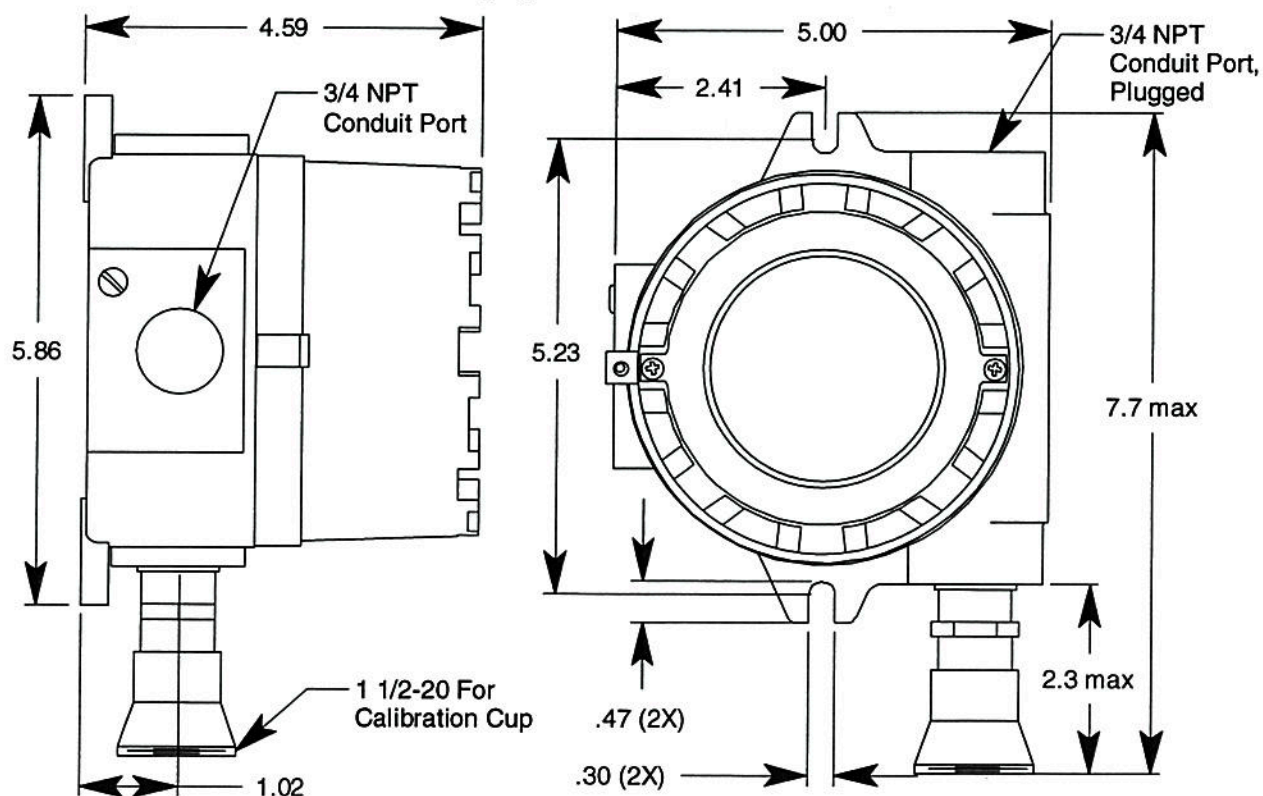
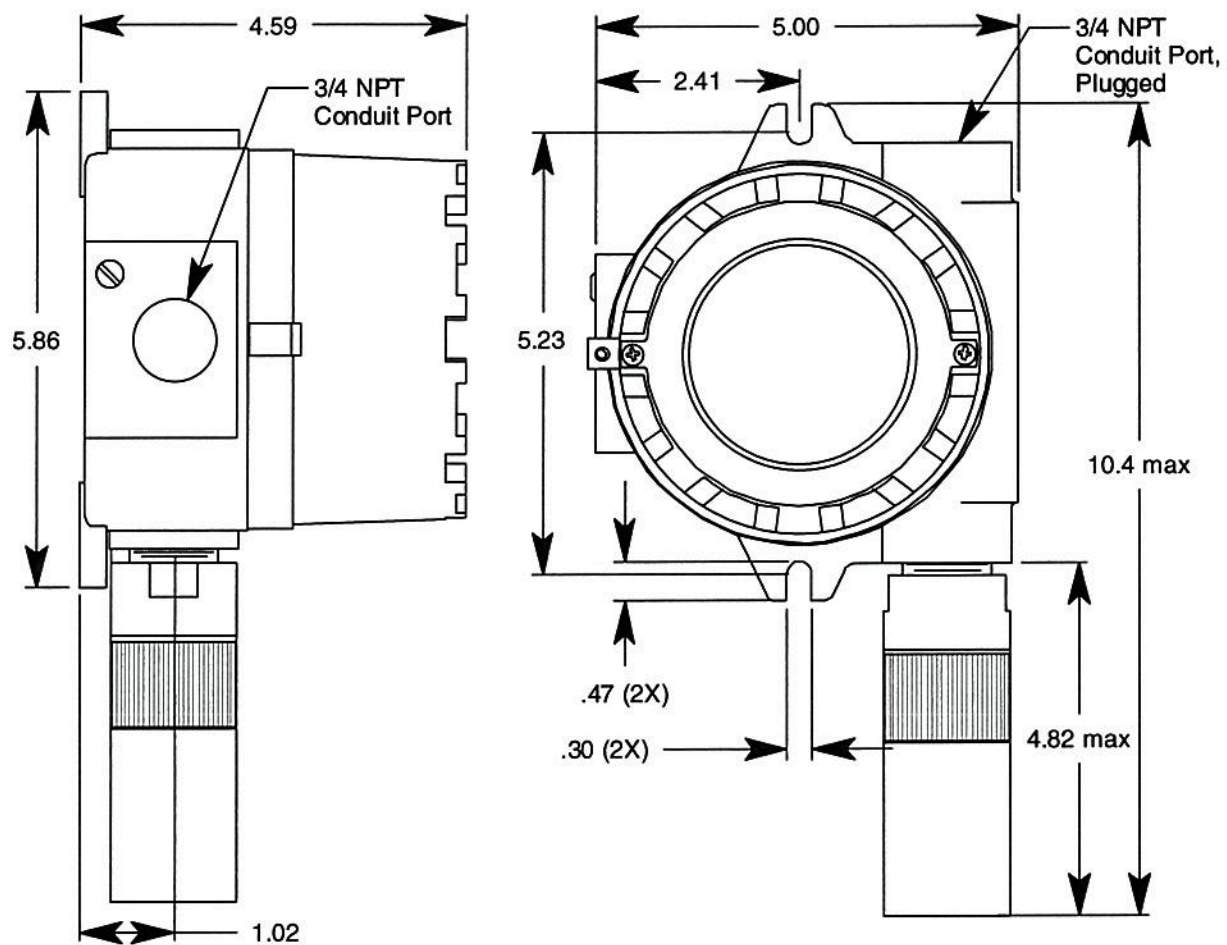

Figure 11: Outline & Mounting Dimensions, Catalytic LEL
Figure 16: Outline & Mounting Dimensions, ESM-01 Toxic
2. At the monitoring site, use #10 screws through the junction box's two mounting holes to secure the junction box to a vertical surface. Figure 11 - Figure 16 show the outline and mounting dimensions for each version of the M2A. Mount the M2A with the detector facing down as shown in the following figures.